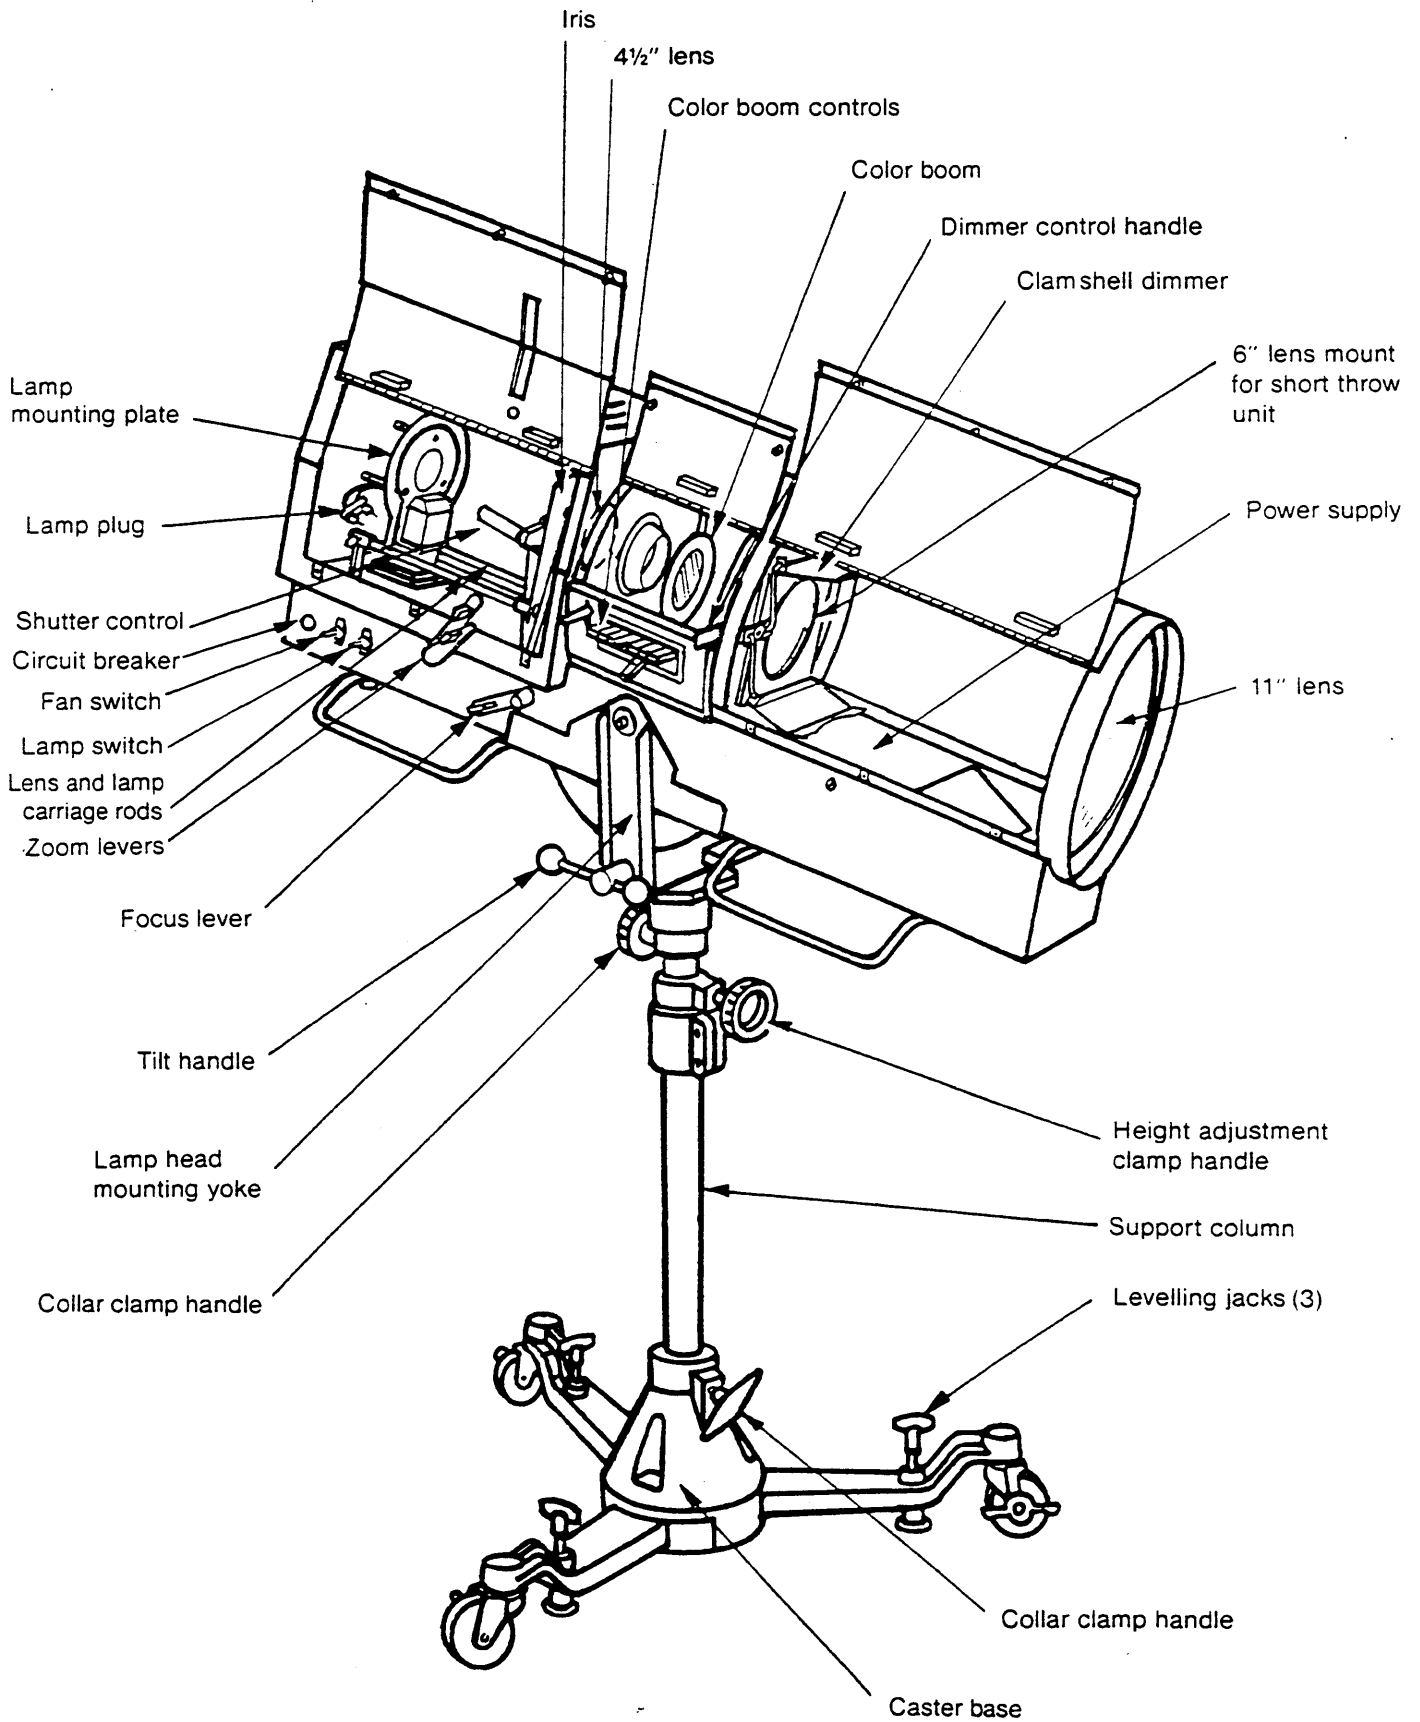

Figure 1.
**Stand assembly:** The stand is shipped in three (3) parts. They are the caster base, the support column and the yoke. They are assembled by placing the support column into the base and securing it by tightening the collar clamp handle. (see fig. 1). The yoke is then mounted on top of the column with the fan cutout forward and secured by tightening its collar clamp handle. The height of the column can be adjusted by loosening the center column clamp handle, raising the center column to the desired height and then re-tightening the clamp. Place the yoke in a level position and lock in place.
**Lamphouse assembly:** Place the lamphouse into the yoke, aligning the captive mounting bolts in the yoke with the threaded studs in the lamphouse (see fig. 1). Tighten the four mounting bolts to secure the lamphouse onto the yoke. This must be done with care, so as not to damage the fan lead on bottom of lamphouse. Place the spotlight at its operating position and lock the casters, then raise the stand off the casters by turning the leveling jacks to prevent unwanted movement. Check the height of the lamphouse to insure that it clears any obstacles during its operation and if necessary again adjust the height of the mounting column. Check to insure that a GE MARC 350 lamp is installed in the lamp holder and plugged into its plug (see fig. 2).
There are two (2) switches used to operate the GE MARC 350 arc lamp used in this spotlight (see fig. 1). The rear switch turns on the fans used to cool the lamp and color filters. These fans must be operating in order for the lamp to be operated. The forward switch turns on the lamp and about (1) minute of warm-up time is required for the lamp to reach full output. If the power line is interrupted or either switch is turned off, the lamp will extinguish and must cool before it will re-start. To accomplish this the lamp switch should be turned off, but the fan switch should be on, to speed lamp cooling. After about one (1) minute, the lamp switch can be turned
The Orbiter spotlight can produce two (2) different beam patterns. The unit is shipped with an eleven (11") inch lens mounted in the front casting and a four and one half (4½") inch lens located between the iris and color boom (see fig. 1). Removing the eleven (11") inch lens from the front casting and installing the six (6") inch lens, also supplied with each unit in the casting behind the clamshell dimmer and in front of the color boom, changes the beam pattern.
Focusing of the spotlight is accomplished by moving the zoom levers located to the right rear of the spotlight (see fig. 1). With the zoom levers adjusted to the desired beam size and intensity, the focusing lever is adjusted to the desired degree of focus (hard or soft edge). Note there is independent adjustment of the iris to change the beamed diameter as well as lamp position to change beam intensity. A lamp position, however, must be chosen to provide light over the total iris opening. The zoom levers are easily operated with one hand to change lamp position as well as open and close the iris to achieve maximum beam performance for any spot size or beam intensity.
The shutter control lever is located on the right side of the spotlight above the zoom and focus levers (see fig. 1). This shutter is used to square off the top and bottom of the beam and is used primarily in the flood position to limit the height of a beam as its width is expanded.
A dimmer control handle is located on the right side of the spotlight in front of the color boom (see fig. 1). As this lever is lowered, the clamshell dimmer closes and reduces the intensity of the spotlight. This change in intensity does not affect beam diameter.
The color boom is located in the center of the right side of the spotlight (see fig. 1). It is supplied with six (6) heat resisting color filters and a black-out dowser.
The ALTMAN ORBITER is a relatively maintenance-free device. Like any other precision made system, the best maintenance recommendation is to keep the spotlight clean both inside, and out. The lens and lamp carriage rods should occasionally be wiped clean and lightly oiled (see fig. 1). Likewise, the pivot points of all mechanical linkages, especially the iris, zoom and focus levers, should be lightly oiled. **CAUTION:**— do not oil the leaves of the iris. If lubrication is required, sparingly apply graphite or "ARC LUBE" only.
Access to the GE MARC 350 lamp is obtained by opening the rear access cover door and moving the zoom focus lever to its rear position (see fig. 1). The rear door is fastened by a captive thumb screw which is unfastened by rotating counter-clockwise.